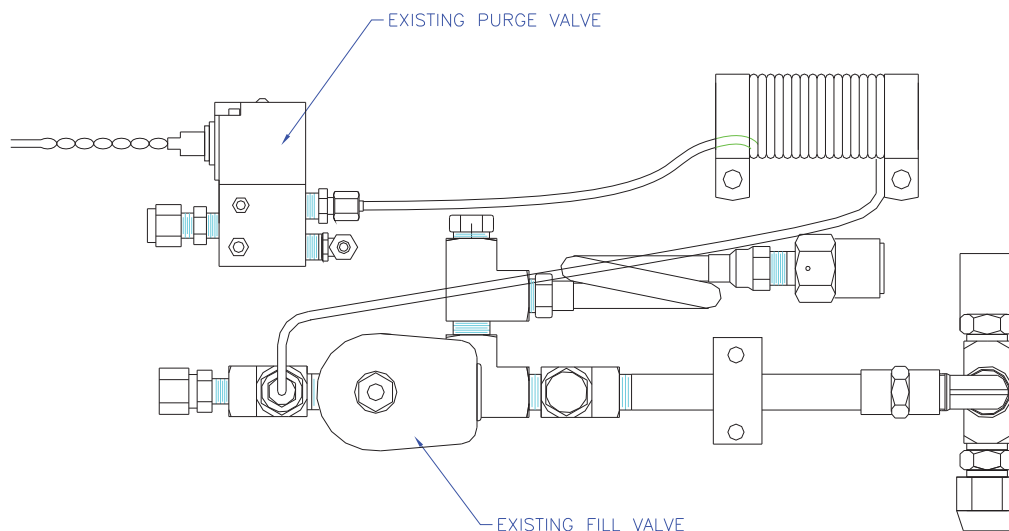
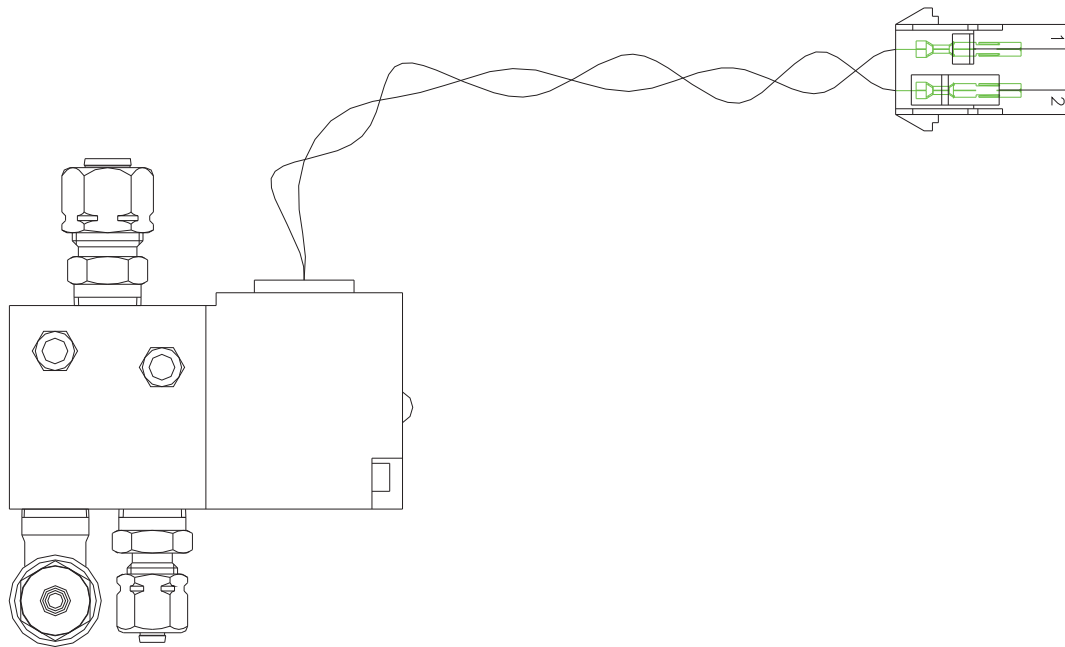
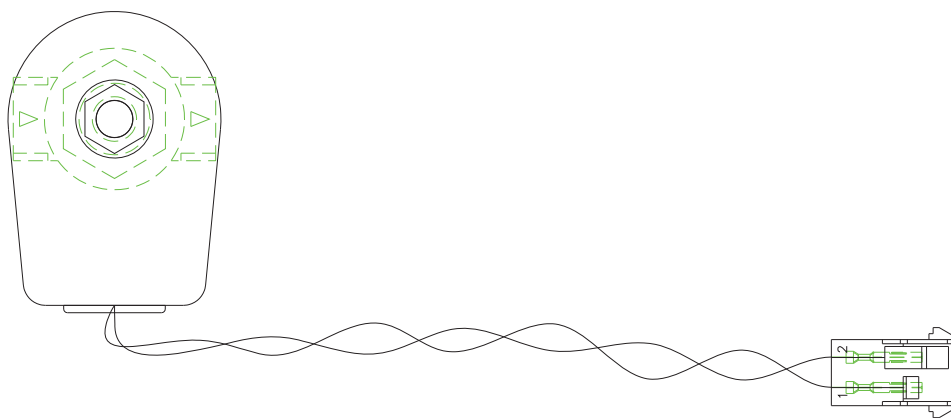

Figure 1, Existing plumbing details
Figure 2, NEW PURGE VALVE ASSEMBLY
Figure 3, NEW FILL VALVE ASSEMBLY
9. Remove the existing purge valve (Reference Figure 1) and replace with the new purge valve assembly provided (Reference Figure 2), making sure to reconnect the copper and vinyl tubing.
11. Remove the existing fill solenoid valve (Reference Figure 1) and replace with the new fill valve assembly provided (Reference Figure 3).